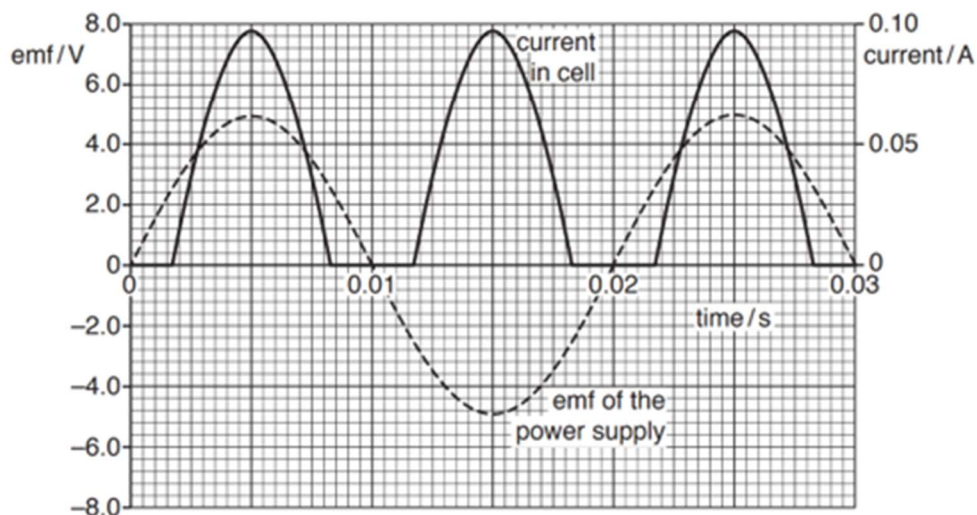

Fig. 6.8
Fig. 6.8 shows how the emf of the transformer output and the current in the cell vary with time. The current in the cell during each half-cycle of the transformer output is always in the same direction.
2. Use Fig. 6.8 to estimate the quantity of charge that flows in the cell in a 0.010 s period of time.